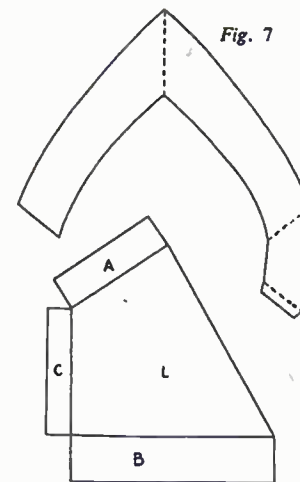

Fig. 6
The deck can be cut from thick paper, or cardboard, and glued into place in the hull. The cabin is easily shaped. The masts are made by rolling up paper to form a thin cylinder and fixing with glue. The illustration (Fig. 5) shows the model of a cutter. This can be made as described. The mainsail (L) is made from one piece of paper. The flaps (A) and (B) are rolled up to form thin cylinders which become the gaff and the boom respectively. The flap (C) is glued round the mast and so holds the sail in position. (See Fig. 6).